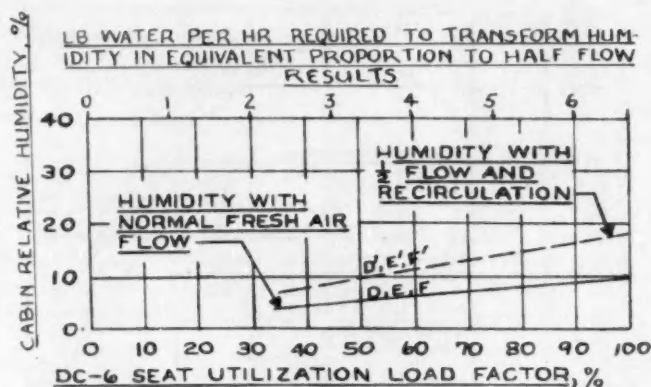

Fig. 4 - Effect of reduction of fresh air to one-half flow on cabin humidity (with recirculation) - curves at -40 F outside air temperature
**Effect of Air Conservation and Recirculation on Humidity**—The typical effect of air conservation and recirculation on humidity during heating is shown by Fig. 4 for -40 F outside temperature. It was assumed that one-half the normal fresh air rate was used and one-half the normal flow was recirculated. The moisture values, in pounds of water necessary to be added to 100% fresh incoming air to accomplish the same desirable effect on cabin humidity as is effected by recirculation, are shown in Fig. 4, together with the seat utilization factor. Note that for the average case of 80% seat utilization, 5 lb or  $\frac{5}{8}$  gph of fresh water added to the incoming cabin air would accomplish the same improvement in cabin humidity.
Fig. 4 shows a typical road test curve. This curve indicates that the wide open throttle performance and the road load performance are equal at the maximum speed of the vehicle. Some models have cooling performance curves of slightly varying slopes due to grilles and fan combinations used. However, this curve is quite typical for the average competitive model of today. It is considered that a very good cooling performance for a modern 6-cyl car would be: